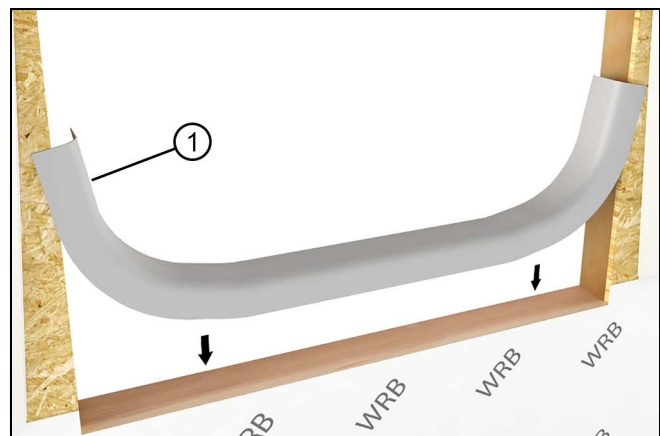

Figure 5
5. Apply the self sealing flexible membrane to the sill. See Figure 5.